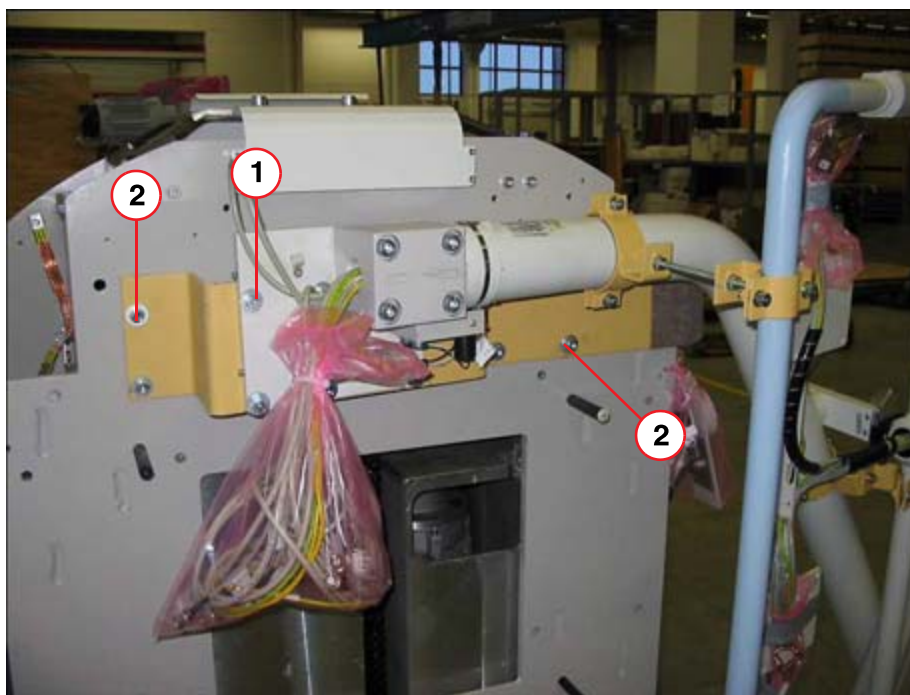

Fig. 45: Unit connection - transport
- Loosen the remaining 4 of the 5 cylinder-head screws M8 x 25 DIN 912 (1/Fig. 45 / p. 69) and remove them with the underlying washers 8.2 x 20 x 2.
- Loosen all cylinder-head screws M8 x 25 DIN 912 from the wedge-shaped transport holder (2/Fig. 45 / p. 69) and remove it.